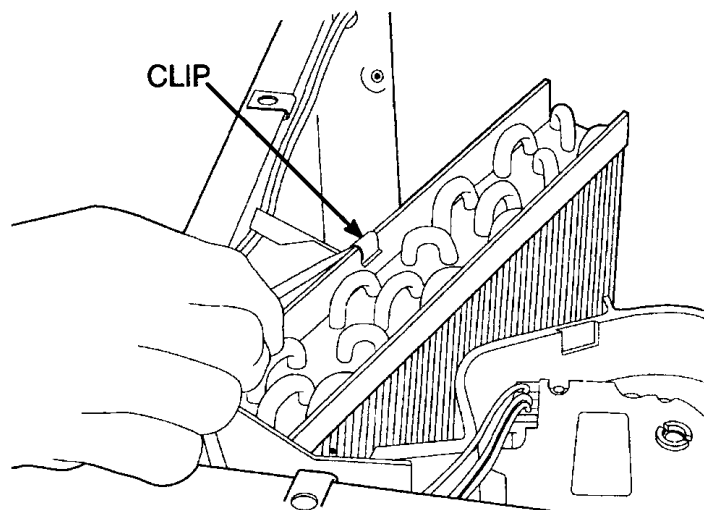

Figure 33 Heater Core Clip
8. Remove the clip that secures the heater core to the inside of the Blend-Air unit (Figure 33).
2. Install the clip that secures the heater core inside the Blend-Air unit (Figure 33).